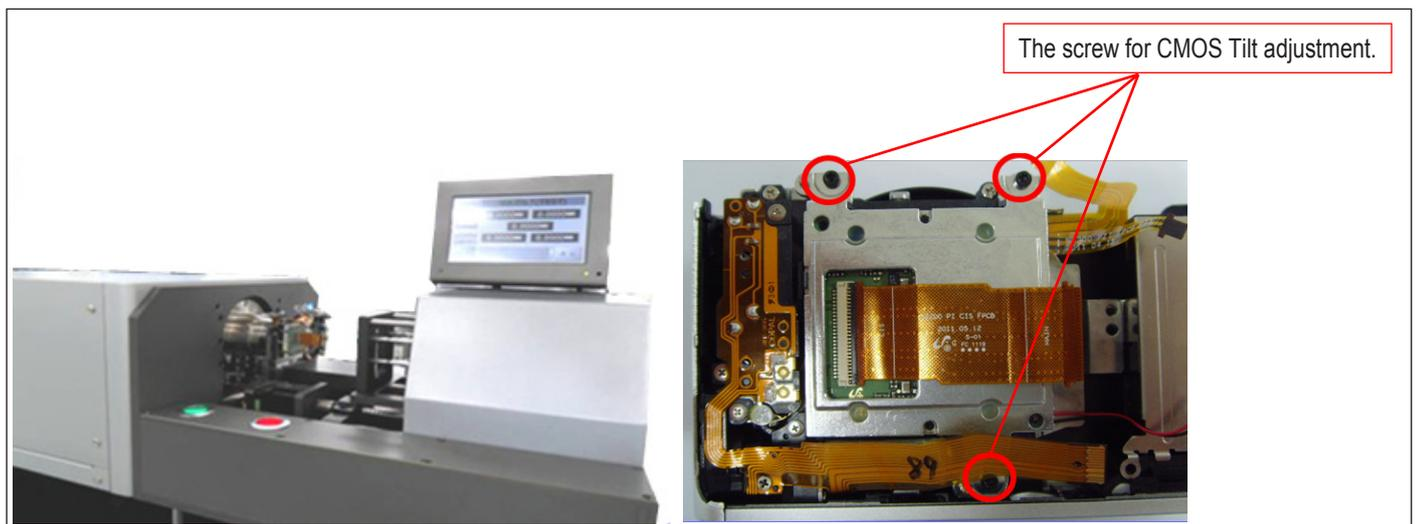

Fig. 8-2
3. After adjustment completion, Apply glue on 3 screws to fix the screw position as illustrated in Fig. 8-2.